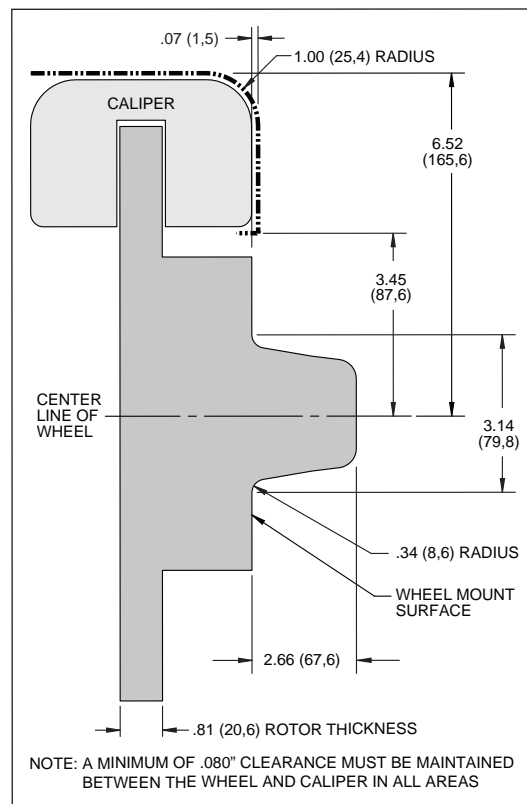

Figure 2. Wheel Clearance Diagram
- Verify your wheel clearance using Figure 2.
- **WARNING:** The wheel contact surfaces must seat completely on the face of the hub. If any contact surfaces overhang the outside diameter of the hub face, a 6.60" diameter x .20" thick steel spacer (item 23, Wilwood P/N 300-11961) MUST be used between the wheel and the hub.